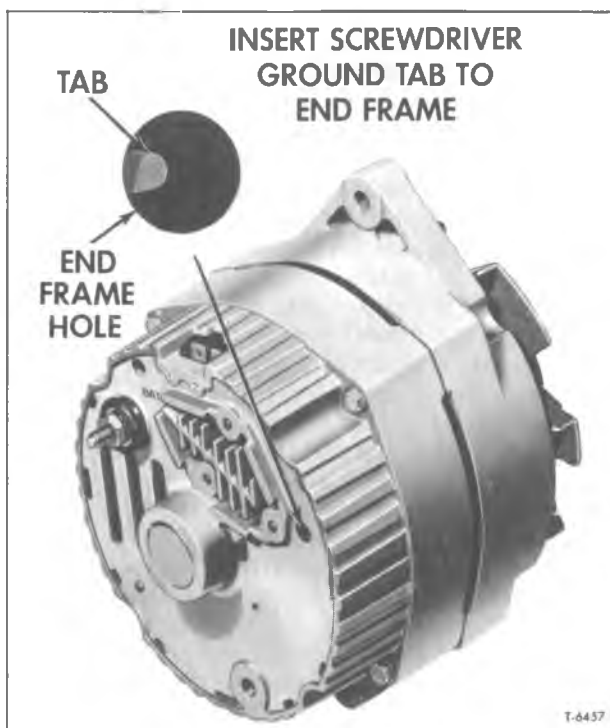

Figure 4—End View of 42- or 61-Amp. Integral Type Generator (Typical)
- b. If reading is less than 12.8 volts, ground field winding by inserting a screwdriver into the test hole in the end frame (fig. 4).
- (1) If voltage increases (13 volts and above) regulator is defective and must be replaced. Repeat Steps 7 and 8 after new regulator unit has been installed.
- (2) If voltage does not increase significantly, remove generator and repair.
7. If output is not within ten per cent of rated output, ground the generator field (fig. 4).